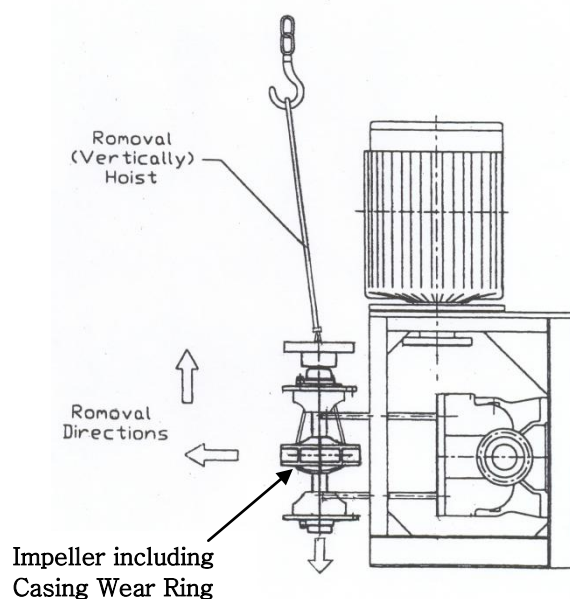

Fig. 9b
- (1) Remove coupling connections.
- (2) Remove side cover bolt and lift off the entire pump shaft smoothly by using vertically hoist as fig. 9b.
- (3) Place rotating parts on wooden support and remove shaft coupling.
- (4) Remove bolts for bearing unit and remove bearing unit from the shaft.